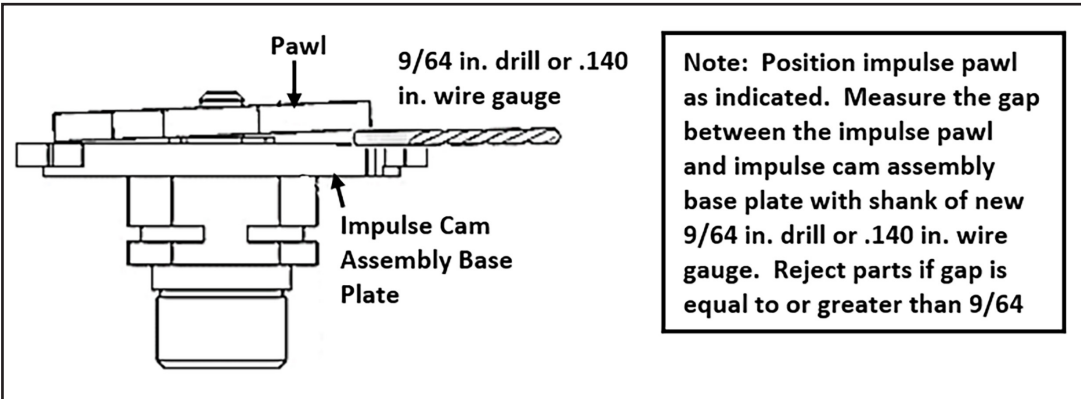

Figure 4.5 – Measuring Pawl Gap
- 2) Position the latching end of the impulse pawl over the impulse assembly and measure the gap as shown in Figure 4.5. Replace and discard if gap measures equal to or greater than 9/64 in. or .140 in.